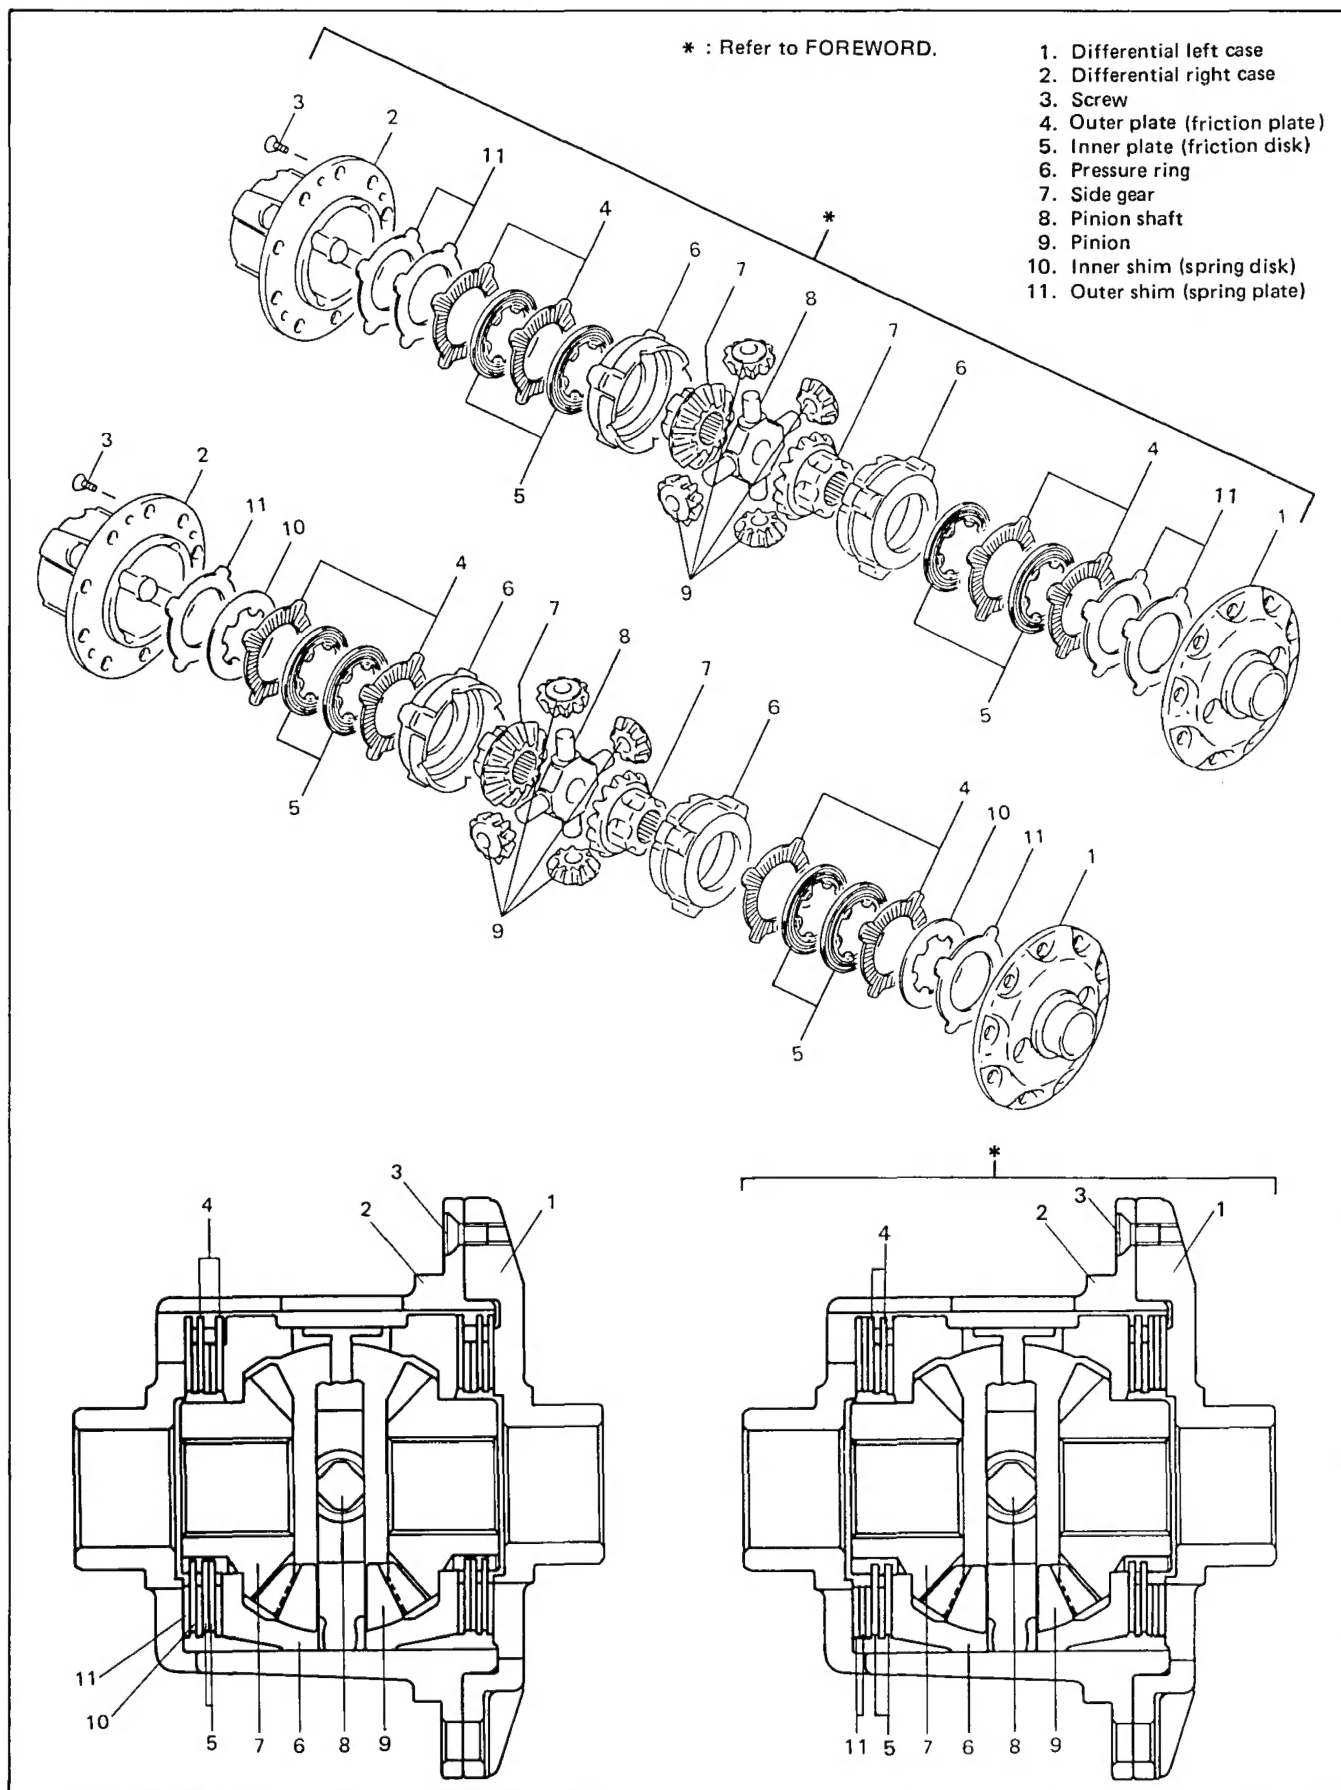

Fig. 7E-3 LSD Case Assembly
1. Check that match mark is stamped on each differential case (right and left). If not, put such marks. (Refer to Fig. 7E-4.)